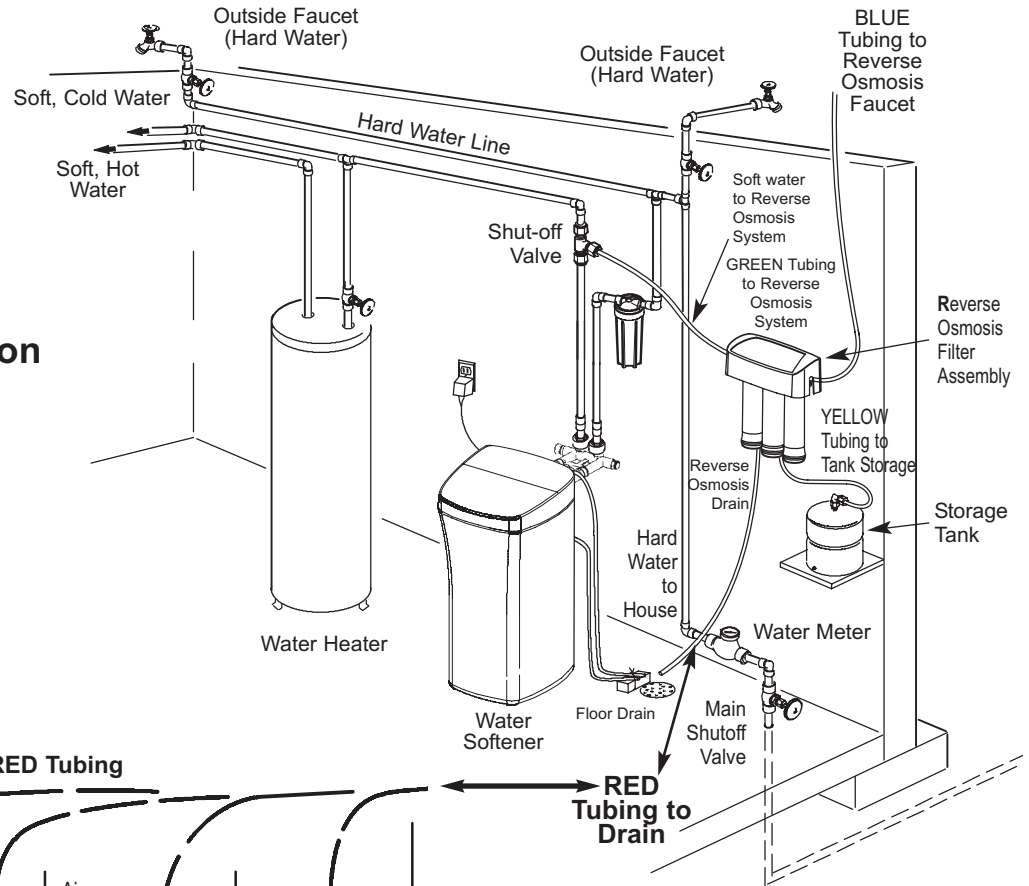
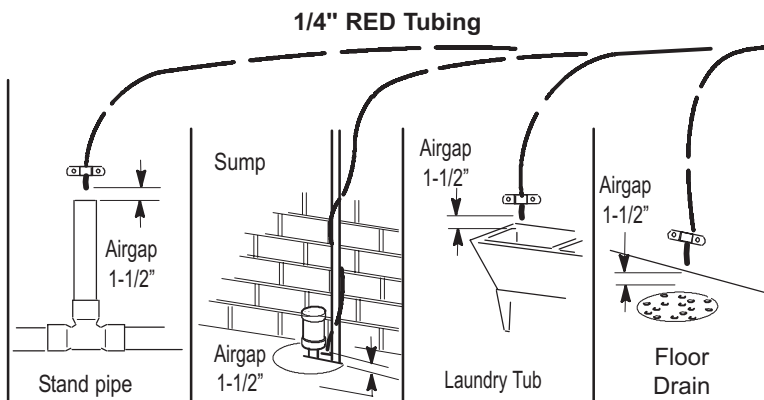

FIG. 9
FIG. 10
(See Fig 9, Fig. 10) This is usually used in remote location type installations. The drain tube from the Reverse Osmosis Filter runs directly to an open drain. See Fig. 9 & 10.
Route the drain tubing to an existing drain in the house. A floor drain, laundry tub, standpipe, sump, etc. are suitable drain points. See Fig. 10. This type of drain is the preferred over the p-trap drain adapter.
1. Locate the 1/4" red tubing on the Reverse Osmosis filter assembly. See Fig. 9.
4. Route the tubing to the drain point and secure at the end with a bracket (not included). See Fig. 10. Provide a 1-1/2" air gap between the end of the tube and the drain. See Fig. 10.